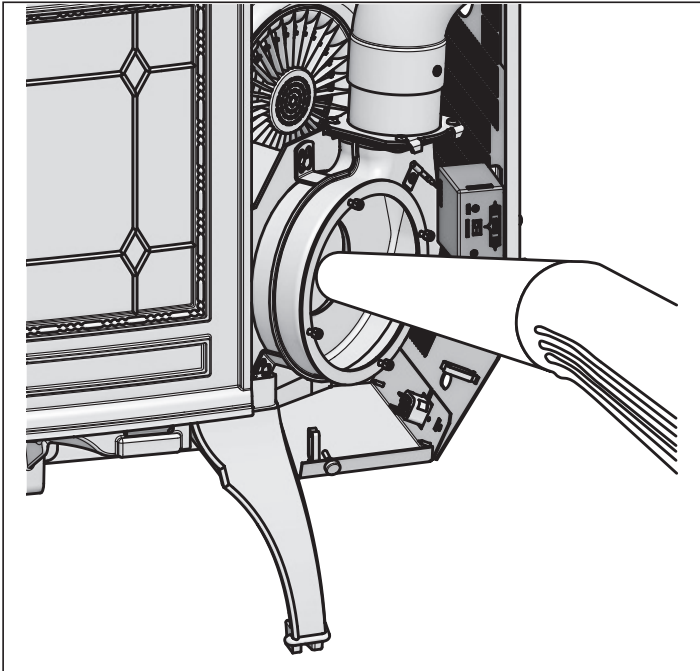

Figure 25.1
- d. Vacuum out exhaust path and housing. **Figure 25.1**